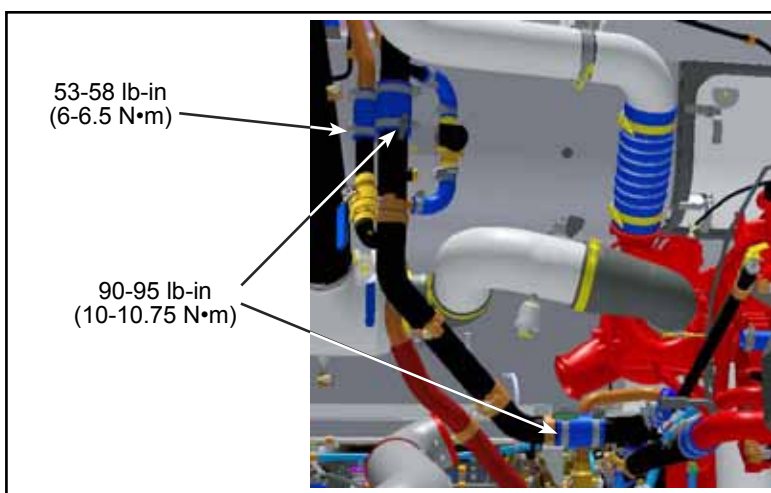

Figure 3 - Torques to Apply
- 1.5. Install the hose N69247 containing the valve using the retained hose clamps. Tighten the clamps to the torques indicated in Figure 3.